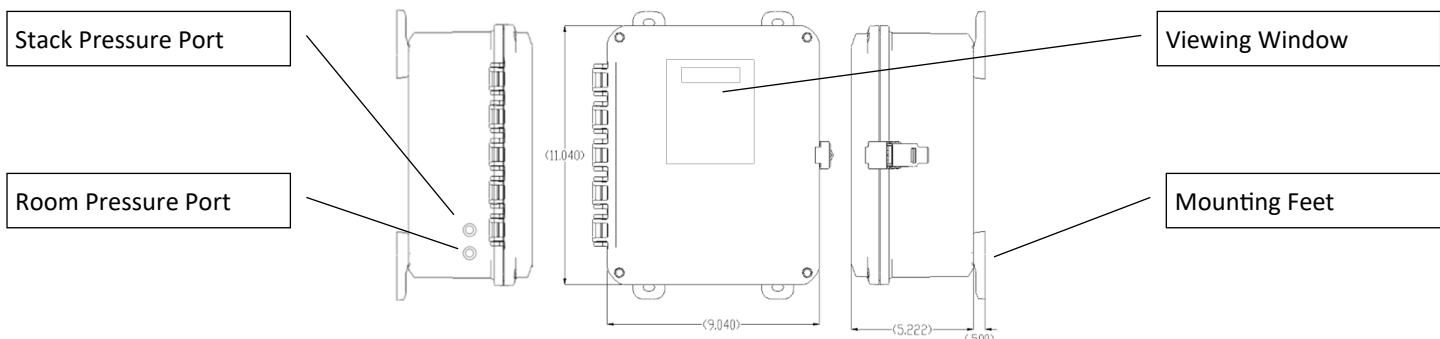

FIGURE 20
- When possible, a single “accessible” location is preferred for access to the Meridian control panel as well as the gas valve control box (E-VK (N/P)) for the Isoflames linear burner. With mounting feet installed the Meridian Control Panel measures approximately 9-1/2” (W) x 12” (T) as shown in **(Figure 20)**. The gas valve control valve box measures approximately 12” (W) x 12” (T) x 4”(D). The gas valve control box installation will be covered in section “Gas Line & Valve Box Installation”.